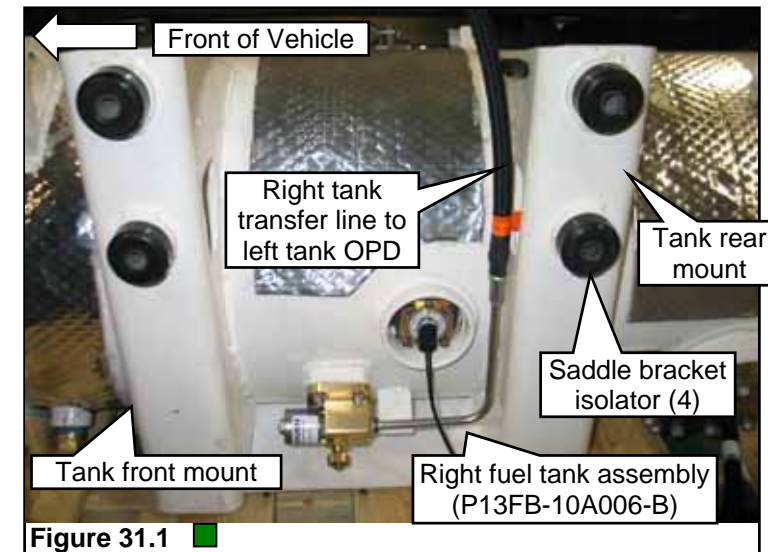

Figure 31.1
1. Attach the tank to a suitable lifting device on a stable platform. Make sure the tank is centered and positioned horizontally to the frame and the mounting hardware and is in position near the right frame rail. **Figure 31.1.**